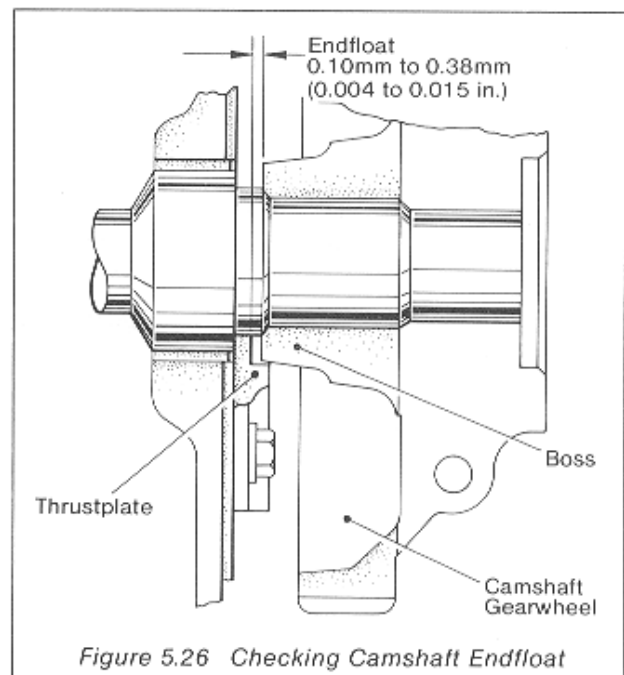

Figure 5.26 Checking Camshaft Endfloat
- (5) Check the camshaft end float is 0.10 to 0.38 mm (0.004 to 0.015 in.). The measurement is checked by inserting a feeler gauge between boss and thrust plate, as shown in Figure 5.26.
- (6) Fit the timing cover locating it on the aligning dowels.